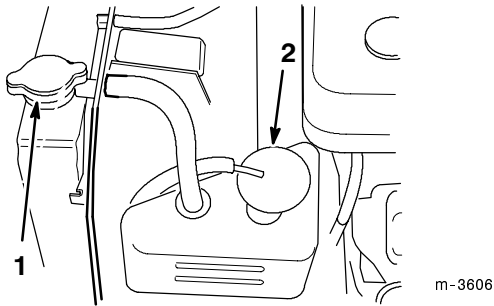

Figure 33
3. Remove the radiator cap and reserve tank cap (Fig. 33).